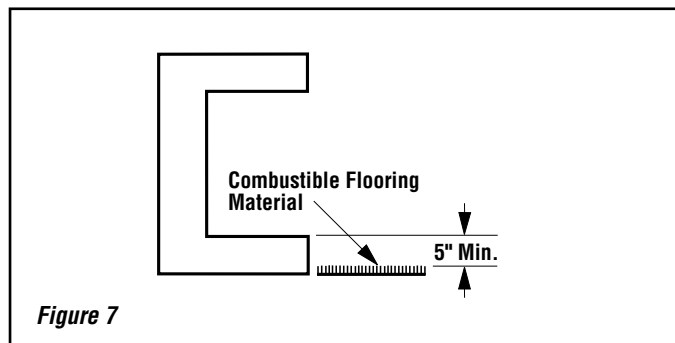

Figure 7
**Step 5. Floor clearance:** If combustible flooring materials, such as carpeting or asphalt tile, are to be located within 14" of the fireplace or firebox opening, the appliance base must be at least 5" above the combustible flooring material (**Figure 7**).